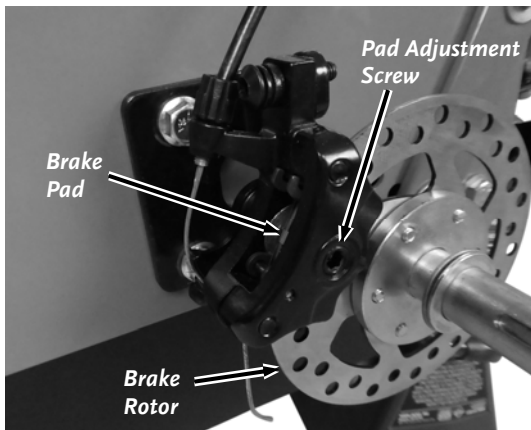

Figure 47
1. Tighten the Pad Adjustment Screw using the 5.5mm Allen wrench until just before the Brake Pad touches the Brake Rotor (**Figure 47**).